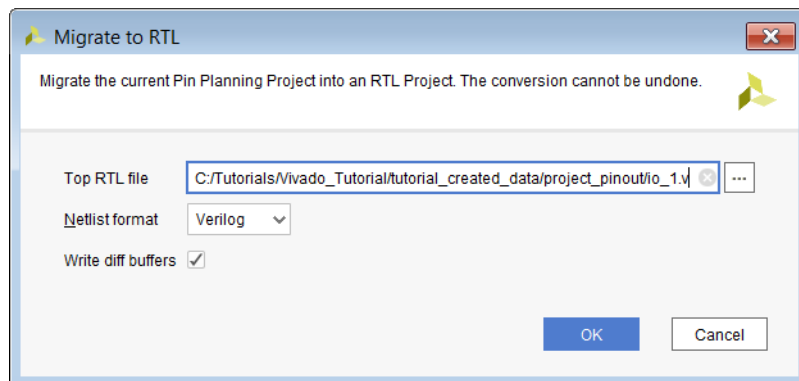

Figure 3-21: Migrate to RTL Dialog Box
2. In the Migrate to RTL dialog box (Figure 3-21), set the following options, and click **OK**.